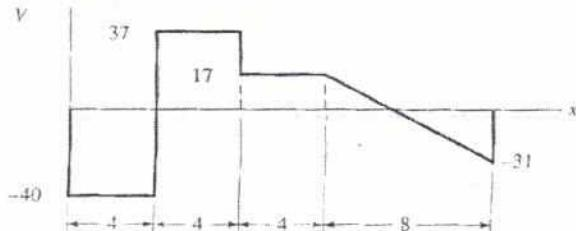

Fig. 2
- (b)** A 10 mm diameter brass bolt ($E_{br} = 103$ GPa), is fitted inside a steel tube ($E_{st} = 200$ GPa) (10) with 22 mm outer diameter and 3 mm wall thickness. The length of the tube is 300 mm. The pitch of the bolt is 2.5 mm. After the nut has been fit snugly, it is tightened one quarter of the full turn. Determine normal stresses induced in the bolt and the tube due to tightening.
- Q2(a)** The shear force diagram (SFD) for an overhanging beam is shown in Fig. 2. The beam (10) is supported at 4 m and 20 m from the left end. Draw loading and bending moment diagram (BMD) for the beam. The shear force is in kN and distances are in m.